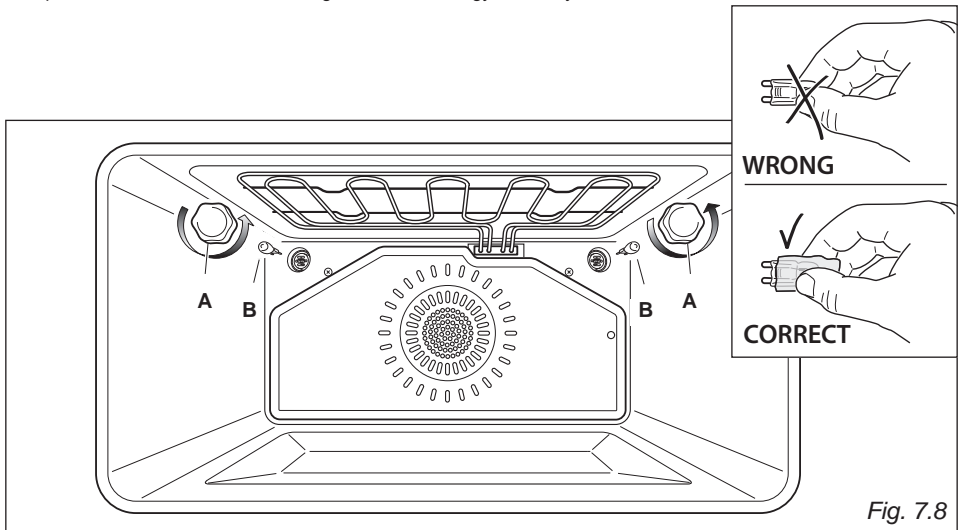

Fig. 7.8
- Remove the protective cover "A" (fig. 7.8);